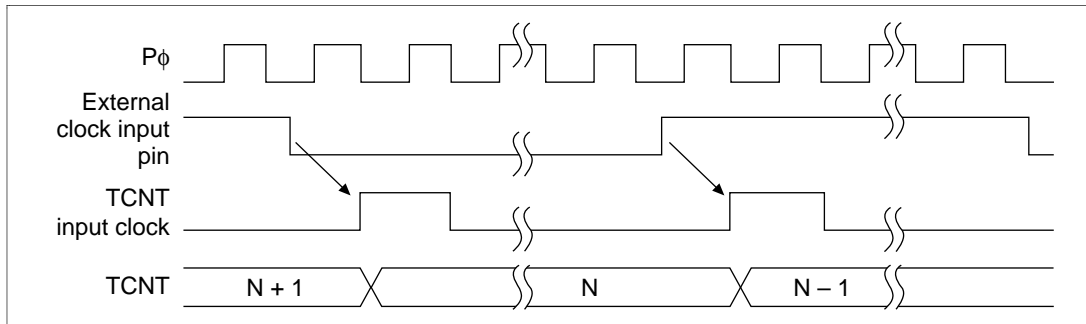

Figure 11.5 Count Timing when External Clock Is Operating (Both Edges Detected)
- **External Clock Operation:** Set the TPSC2–TPSC0 bits in TCR to select the external clock (TCLK) as the timer clock. Use the CKEG1 and CKEG0 bits in TCR to select the detection edge. Rise, fall or both may be selected. The pulse width of the external clock must be at least 1.5 peripheral module clock cycles for single edges or 2.5 peripheral module clock cycles for both edges. A shorter pulse width will result in inaccurate operation. Figure 11.5 shows the timing for both-edge detection.